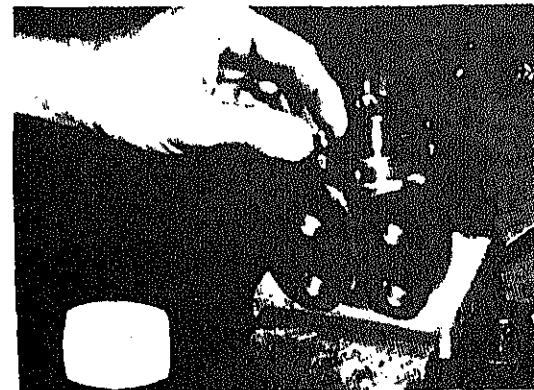

FIGURE 9-47.
l. Check the condition of the o-ring seal on the check plug and replace it if necessary. Install the check plug in the check hole with a steady pressure while rocking it slightly so that the o-ring feeds in smoothly without cutting (see figures 9-47 and 9-48).